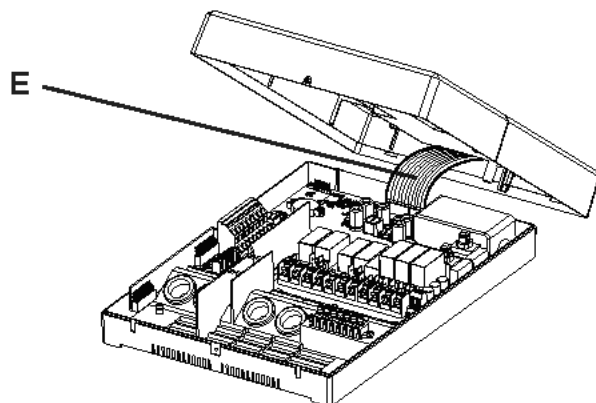

**Fig. 3 Unplug ribbon cable**
3. Pull gently on ribbon cable **E** to release it from the connection socket (**Fig. 3**).